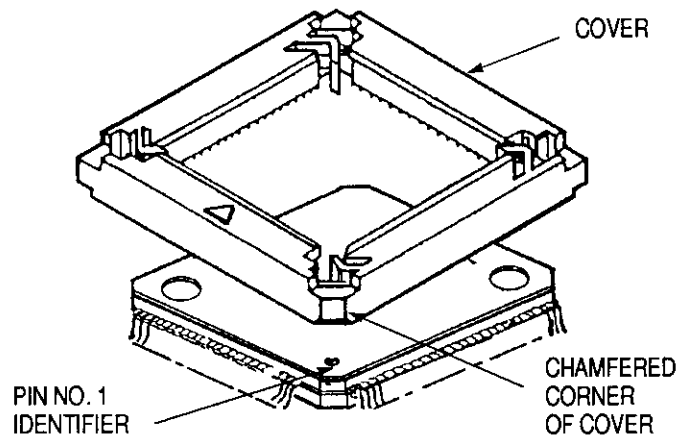

Figure 5
1. Place PQFP on a flat surface, with "gullwings" facing downward. Locate corner of device having pin No. 1 identification. Align chamfered corner of cover with chamfered corner of PQFP (having pin No. 1 identification). See Figure 5.